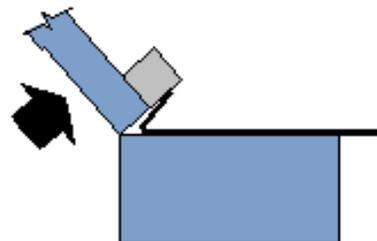

Figure 13-1
2. Now remove the clamping bar, bring up the bending leaf, and continue the fold as in (fig. 13-1). (No clamping is required.)